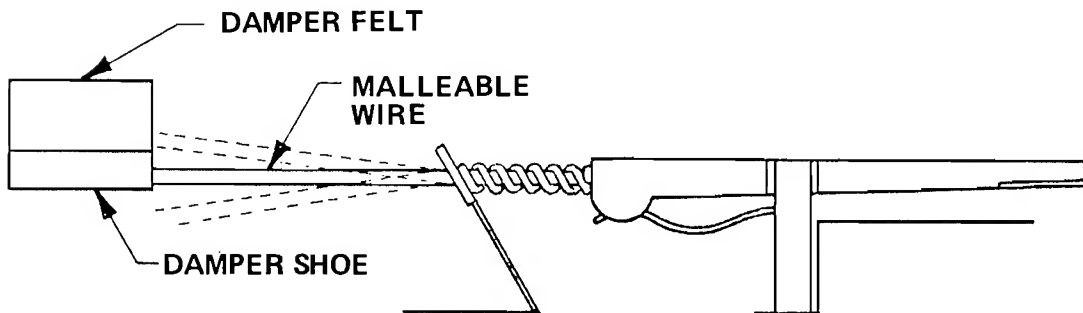

Figure 9-4. Early Design Damper
- (6) Secure all Neoprene Tips following the instructions given in the Kit.
- (7) The new Bridle Straps are slightly shorter than the old, resulting in a lower rest position of the Damper Felts. Adjust these upward to suit by bending the Malleable Wire Damper Arm (Figure 9-4).